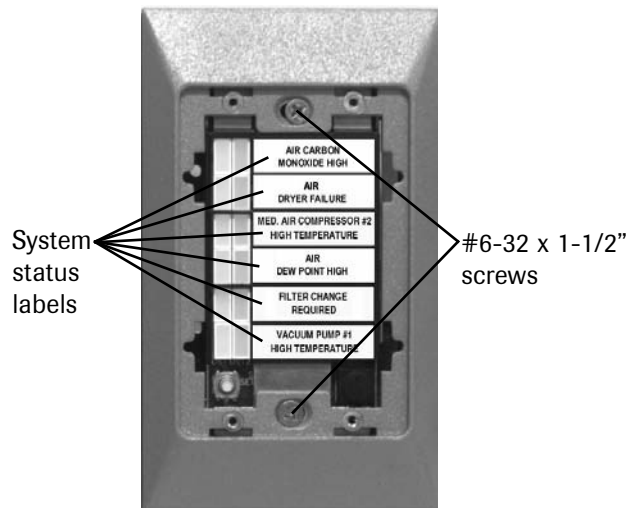

Figure 17
4. Install the multi-signal alarm module chassis into the mounting box using (2) #6-32 x 1-1/2" screws. **Do not tighten.** Refer to **Figure 17**.